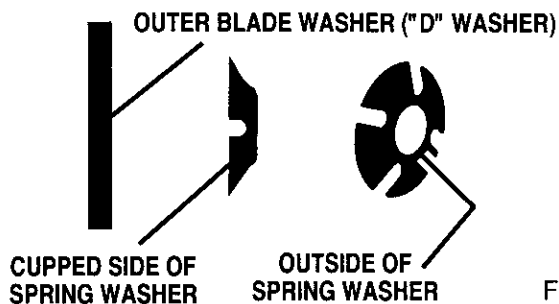

Fig. 3
■ Replace "D" washer and spring washer. **Note:** "Cupped" side of spring washer goes against "D" washer. See Figure 3.